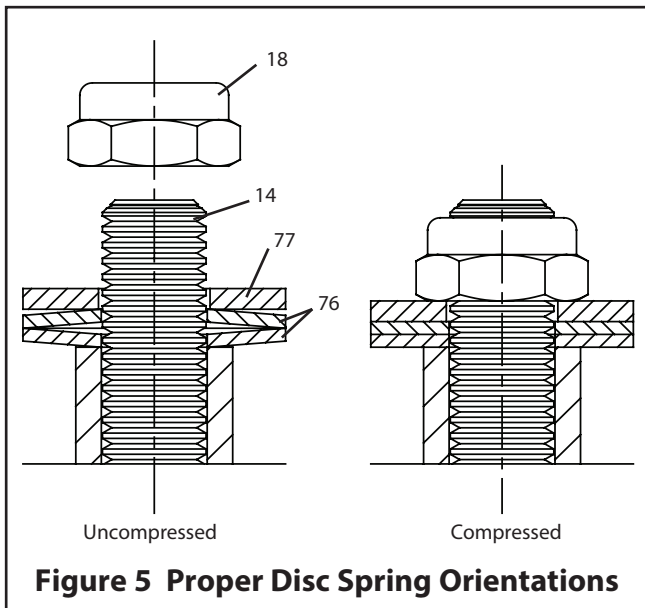

Figure 5 Proper Disc Spring Orientations
9. Place the compression ring (9) on the stem (5) and fit the compression plate (10) over stem (5) and bonnet studs (14). Place one stop bushings (50) over each bonnet stud (see **Figure 5** for proper orientation).
10. Place indicator stop (32) over the stem (5). A tamper-proof pin in the stem will allow the indicator stop onto the stem only one way. At this point, the stem with the indicator stop mounted and located between stop bushings (39) is positioned so that a counterclockwise rotation of the stem will open the valve.
11. Place retaining ring (34) over the stem and into the groove on the stem.
12. Place two disc springs (76) over each bonnet stud (14), (see **Figure 5** for proper disc spring orientation). Place a flat washer (77) over each bonnet stud (14).